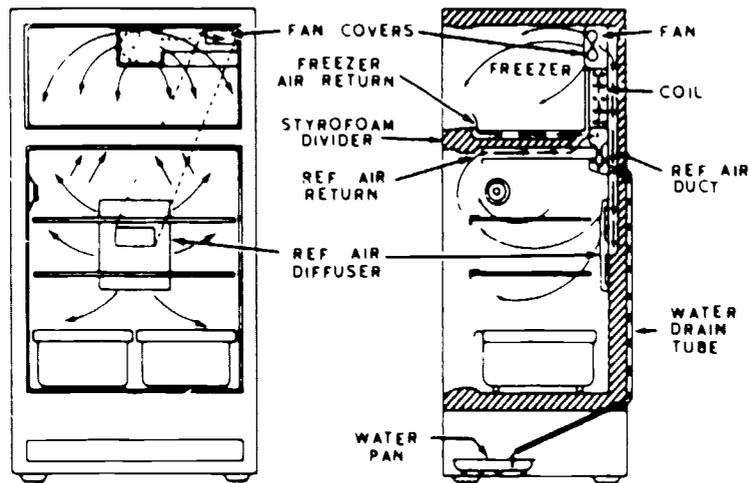

Figure 7. Airflow in A No-Frost Refrigerator
**AIRFLOW.** The freezer air is drawn into the return air duct, see figure 7, at the front of the freezer. It passes to the rear between the divider and freezer bottom. It is then drawn upward through the evaporator and discharged into the freezer section.